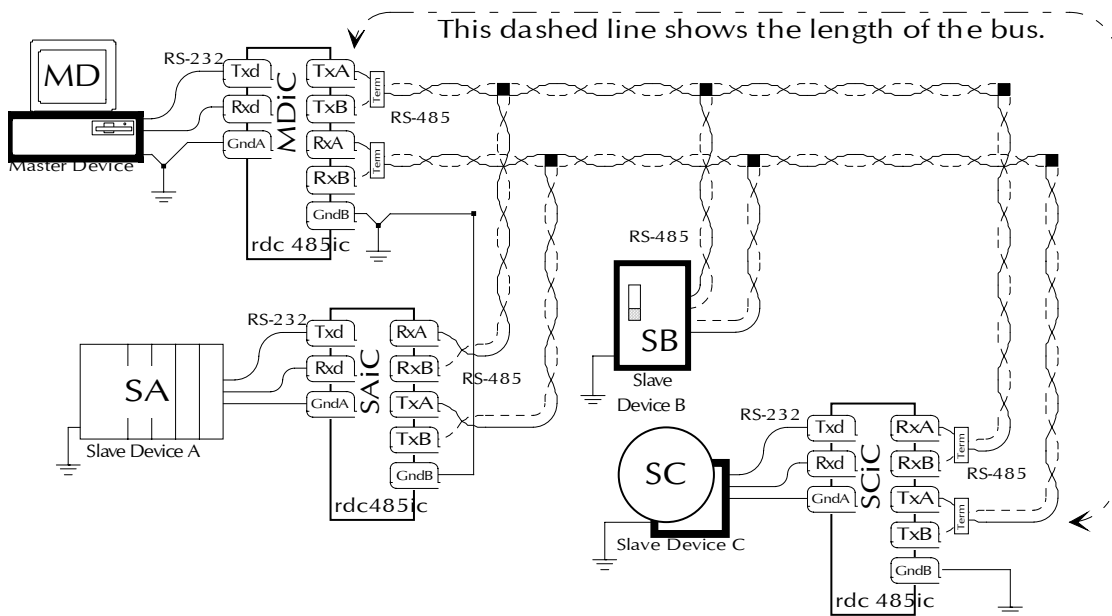

Figure 1: Example 4-wire RS-485 Network
Figure 1 shows a basic four device, 4-wire RS-485 network with 1 Master Device (MD) and 3 Slave Devices – SA, SB, and SC. It also includes 3 galvanically isolated RS-232 to RS-485 converters – MDiC, SAiC, and SCiC. Slave Device SB connects directly to RS-485.
Looking at figure 1, you will see that MDiC and SAiC follow the "fifth conductor" rule, while SB and SCiC follow the "earth reference" rule. MDiC also has an earth reference connection to ensure that all RS-485 signals are referenced to earth to support SB and SCiC.